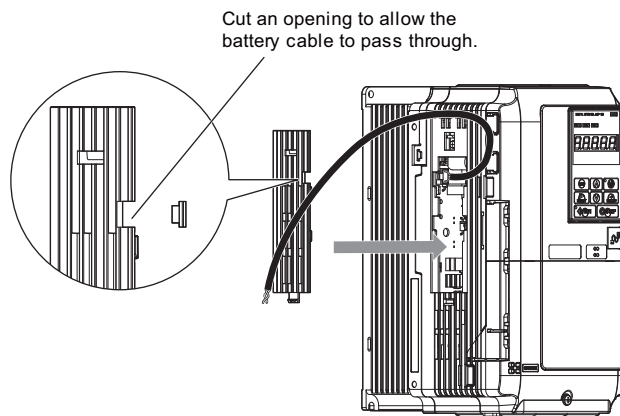

Figure 4.24 Reattaching the Connector Cover (1)
1. Insert the tip of a screwdriver into the opening on the edge of the CN19 connector cover. Slide the cover off the drive as indicated in Figure 4.24.